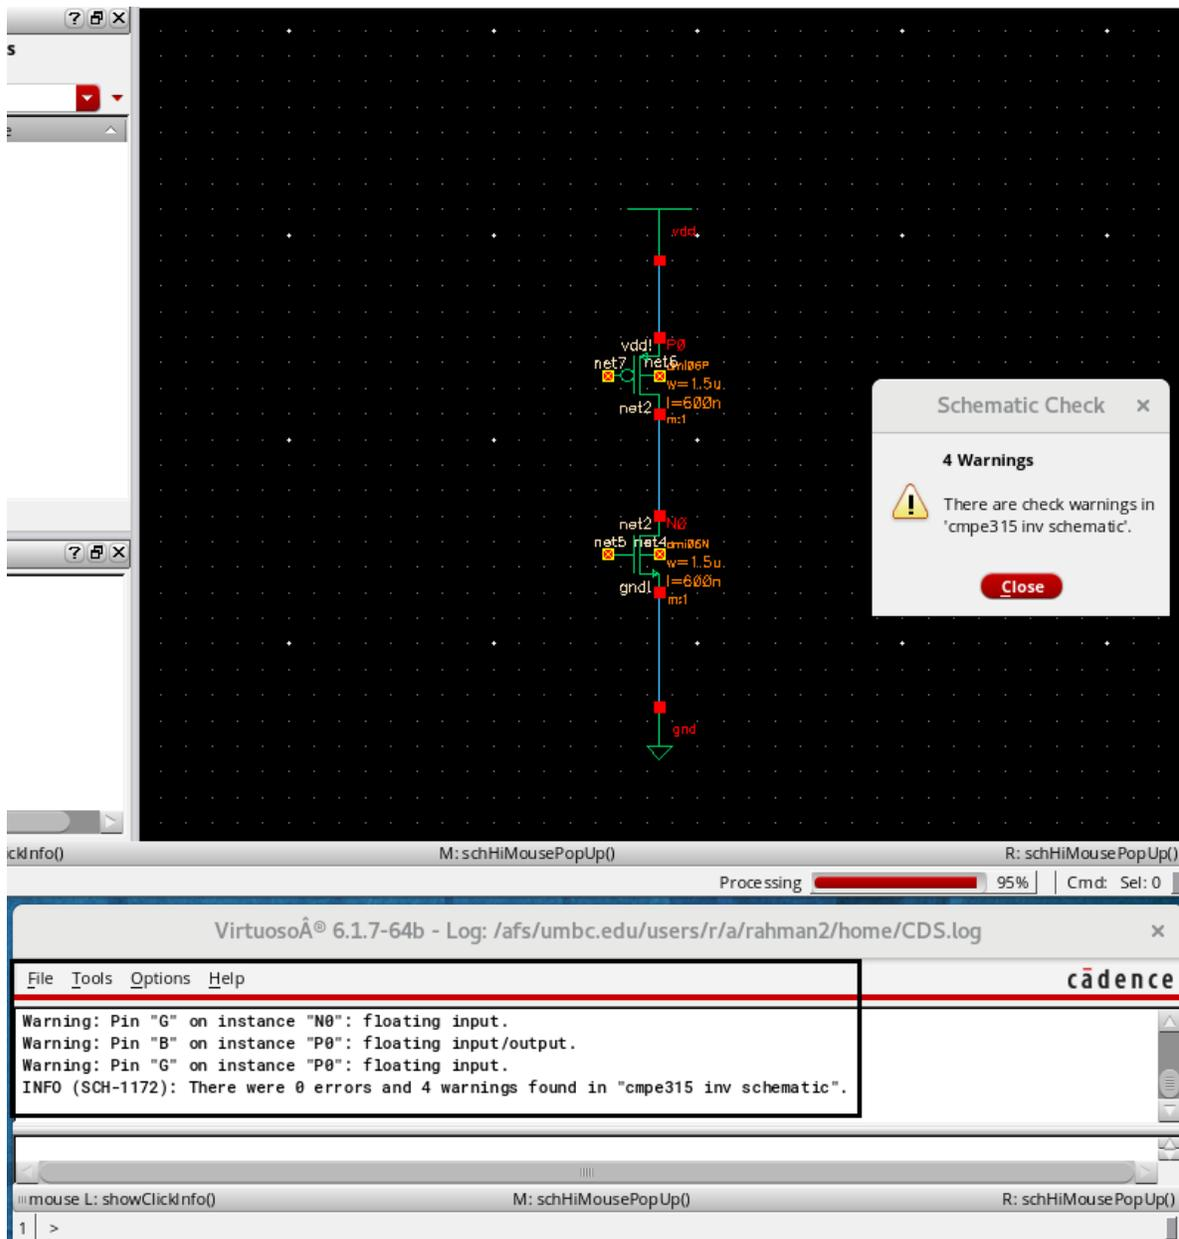

Figure 14: Schematic errors & warnings
14. You can see the explanation of errors/warnings on CIW window as highlighted in Figure 14.